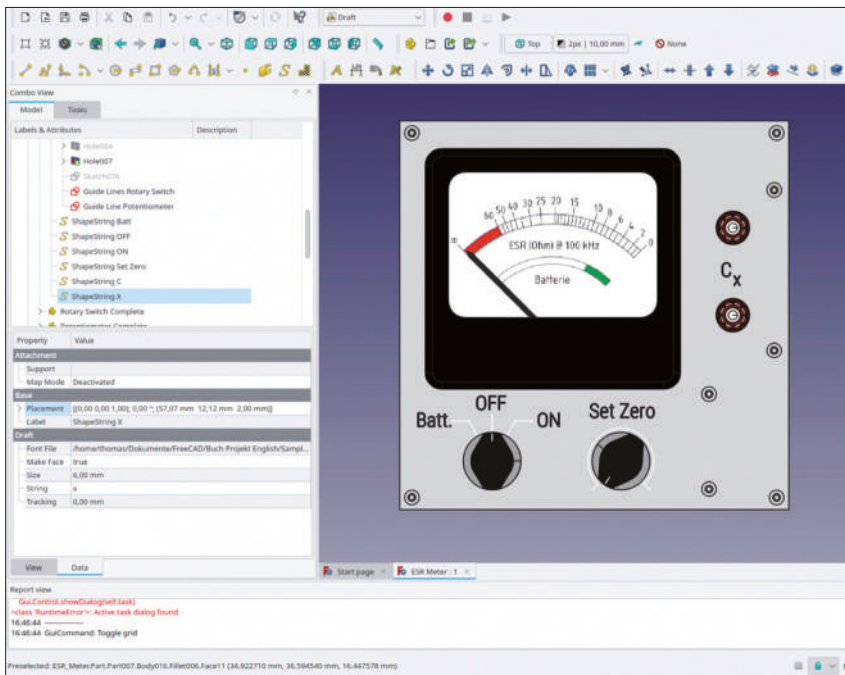

Figure 8-32
8. Between the binding posts, position the letters 'C' and 'x' as shown in Figure 8-32. The x should be a subscript, i.e. a bit smaller in type.